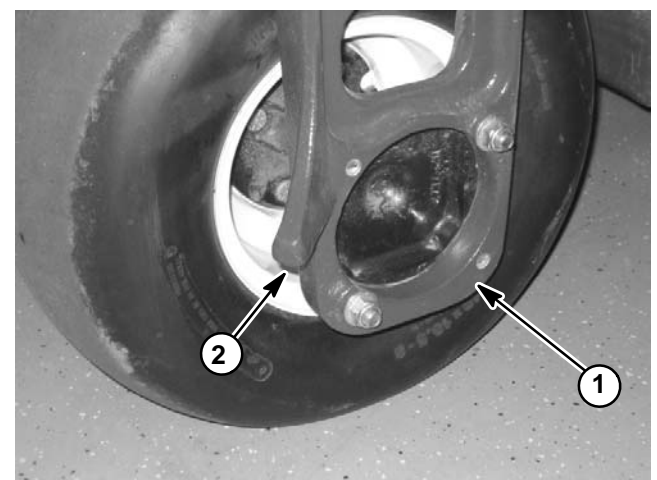

Figure 3
2. Place jack securely under the rear jacking point on the rear steering fork (Fig. 3).